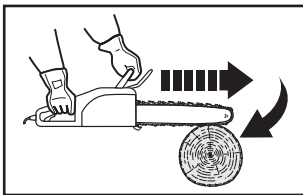

Fig. 8d
3. Pinching the saw chain (3) along the bottom of the guide bar (4) may pull the product forward away from the operator (Fig. 8d).